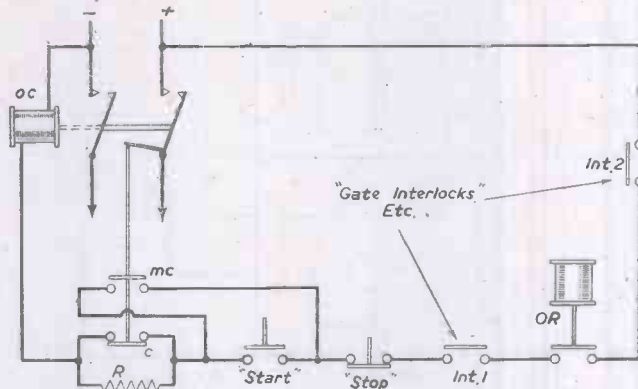

Fig. 2.—Development of the simple contactor circuits, to provide other protective features, etc.—all in the operating-coil connection. (Compare with Fig. 3.)
In fact, operating circuits usually embody quite a number of “contacts,” as shown in Fig. 1b and Fig. 2, and may be complicated in other respects. For example, a starter for a given machine may be interlocked with other machines or devices at points in another part of a building, or at control positions.
Fig. 2 is a next step in the development. A second auxiliary contact c “breaks” when the contactor closes, inserting a limiting resistance R (sometimes called an “economy resistance”) in series with oc. Contactor coils are not generally rated to carry the full closing-current continuously. When enough “pull” has been exerted to close the contactor, contacts c reduce the current to the “holding” value. Where such resistances
In Fig. 2 are also indicated a number of other possible “breaks” in the operating-coil circuit; these are *interlocks* which will prevent the main supply being closed via the contactor until all essential precautions have been taken.
Compare now Fig. 2 with the much more complicated-looking layout in Fig. 3. Installation diagrams are generally drawn so as to show the actual positions of various devices, interlocks, terminals, etc. Usually these parts will be lettered or numbered, though any convenient “tags,” such as “Init. 1,” “Init. 2,” etc., may be employed to denote the interlock series.
To take the simplest case: suppose on actuating the “start” button in Fig. 2, “nothing happens”—the contactor does not close. Obviously, if it did close, but the motor did not start, it shows (a) that there is a main “supply” via the main D.P. isolator switch, fuses, etc., and (b) that there
- (1) Dirt, grit, grease, wear, loose nuts, loose terminal connections, or mechanical faults on any one of the interlocks (Fig. 2), including perhaps the contactor auxiliary contacts or those of the overload release;
- (2) if of the hand-reset type, the overload release may have tripped—or, even if self-resetting, mechanical “stiffness” or other cause may prevent the plunger dropping back to the normally closed position;
- (3) broken connections in the interlock circuit or an internal “break” in the contactor coil—in installations where separate pieces
It should be apparent what to look for, from what was said in reference to auxiliary contacts mc in Fig. 1b and Fig. 2. These “holding contacts” short-circuit the “start” button once it has been “made,” and it is clear that any contact trouble at mc would cause precisely the effect described.
Well, consider auxiliary contacts c, Fig. 2. No contact troubles at these points would explain matters, because the interlock breaks contact, inserting the economy resistance R in the operating-coil circuit. But what if R had burnt out or had developed an internal break?